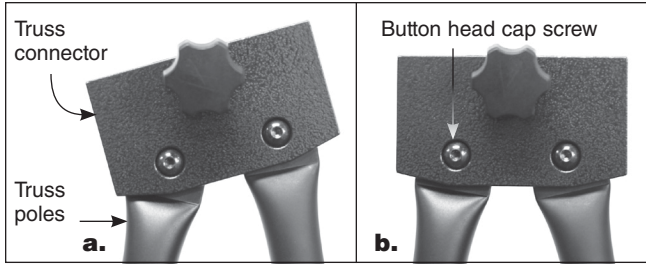
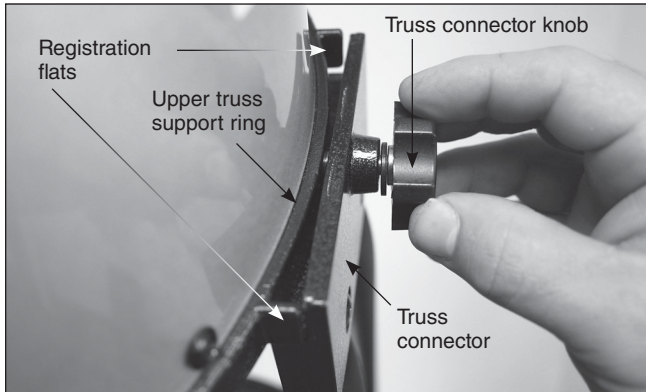

Figure 23. The position of the truss connectors relative to the pole ends can be adjusted to register the truss connectors with the upper truss support ring.
Figure 24. When the knob in the truss connector is tightened, it will clamp the truss connector against the registration flats on the upper truss support ring.
6. Connect the upper tube section to the four truss connectors at the top of the poles. Orient the upper tube section as shown in **Figure 22**. Hold the upper tube section with one hand while threading the knobs in the truss connectors into the holes in the upper truss support ring. If necessary, you can slightly adjust the position of the truss connector with respect to the pole ends in order to have the knobs and holes line up (**Figure 23**). When tightened, the knob will clamp the truss connector against the registration flats on the upper truss support ring (**Figure 24**). Repeat this for the other three truss connectors. Firmly tighten the knobs.
the truss connectors (see **Figure 23**). This should rarely need to be done.